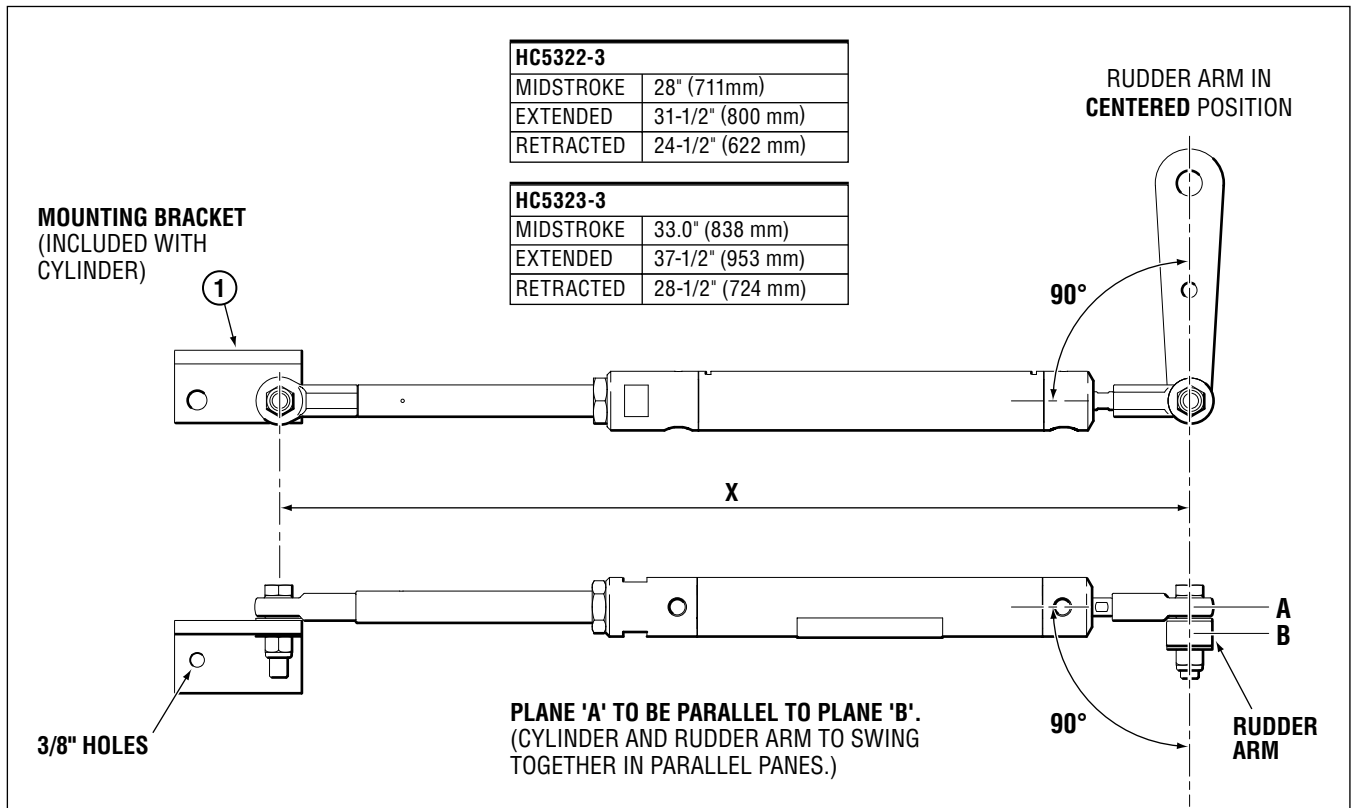

Figure 8. Correct Cylinder to Rudder Arm Mounting Orientation.
- 2** To achieve **MAXIMUM** performance, cylinder is to be mounted at a right angle (90°) to the rudder arm when in the center position (refer to Figure 8 below).
- 5 Place rudder in midstroke position and extend cylinder to mid stroke (see Figure 8).
- 6 Temporarily install the other rod end into the mounting bracket (item 1, Figure 8). Using the bracket as a template, mark off the positions of the two 3/8" holes on the mounting surface.
- 8 Mount the bracket (item 1, Figure 8) with through bolts, washers and nuts (not supplied by SeaStar Solutions). DO NOT USE LAG BOLTS.